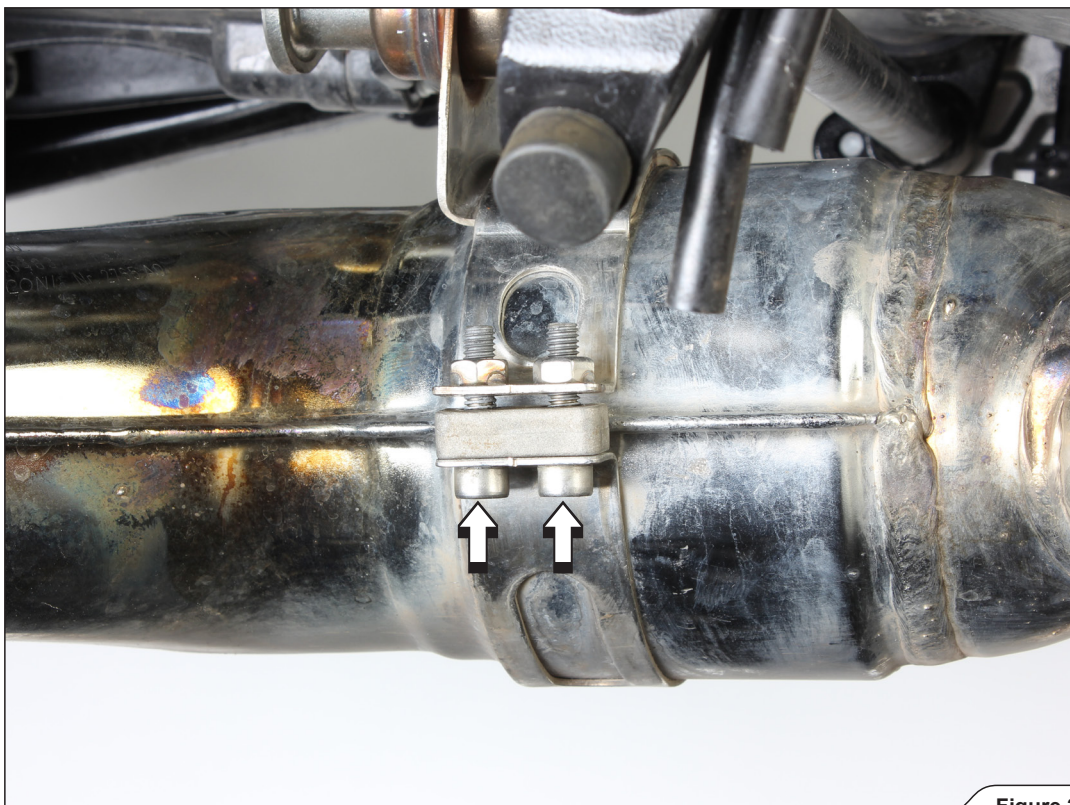

Figure 2
3. Unscrew the marked clamp's bolts (**Figure 2**).